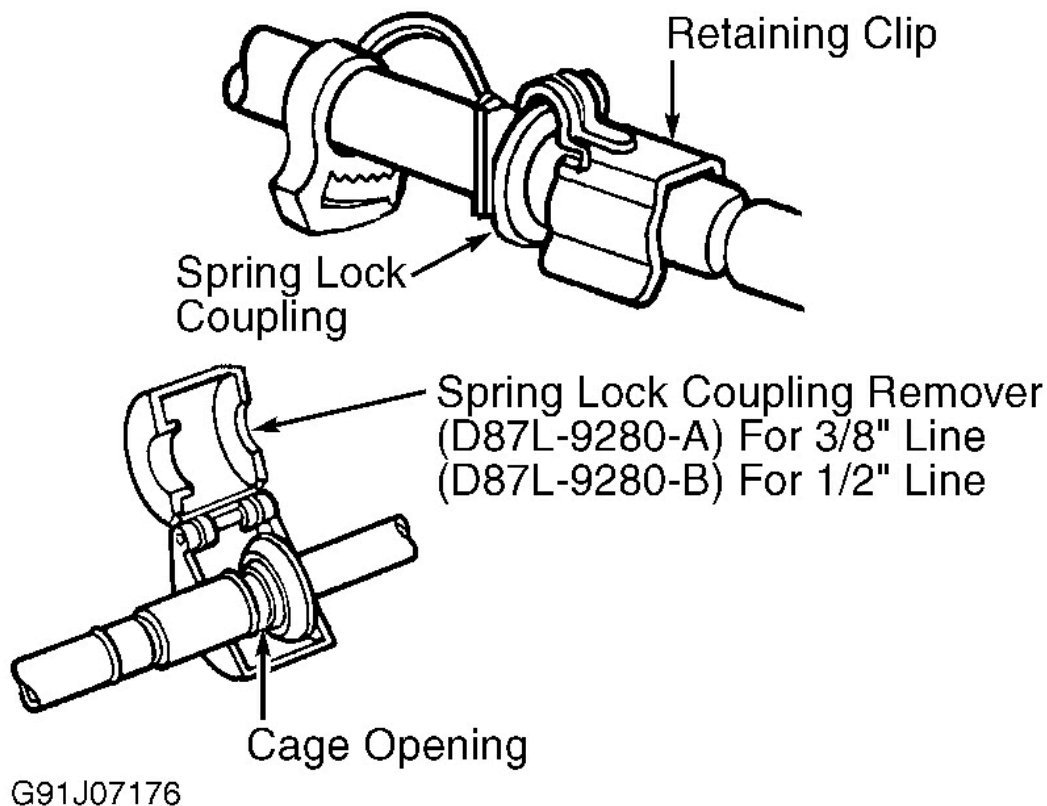

Fig. 1: Disconnecting Fuel Lines
3. Use Spring Lock Coupling Remover (D87L-9280-A) for 3/8" line, or (D87L-9280-B) for 1/2" line. Install spring lock coupling remover on fuel line coupling so it enters cage opening. See **Fig. 1** .